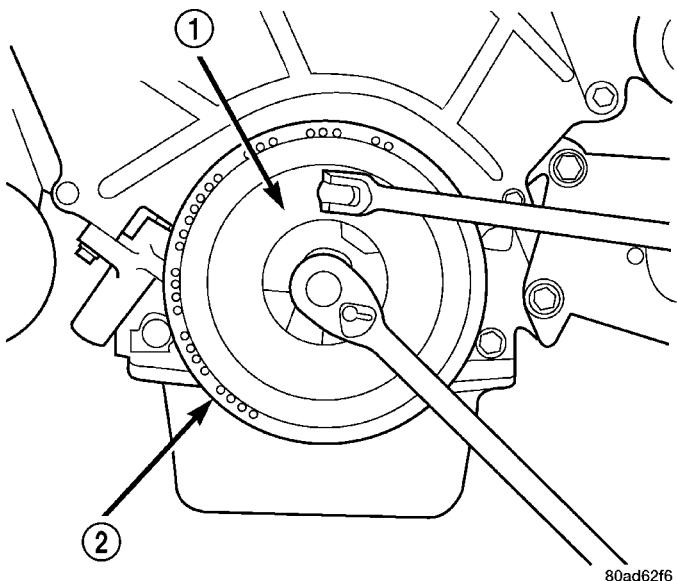

Fig. 95 Crankshaft Damper Center Bolt - Removal and Installation
(4) Remove the accessory drive belts. (Refer to 7 - COOLING/ACCESSORY DRIVE/DRIVE BELTS - REMOVAL)
(5) Use Special Tool 8191 to hold crankshaft damper while removing center bolt (Fig. 95).
ing from 6792, and 6792-1 Installer (Fig. 97). Install center bolt and tighten to 115 N·m (85 ft. lbs.) (Fig. 95).